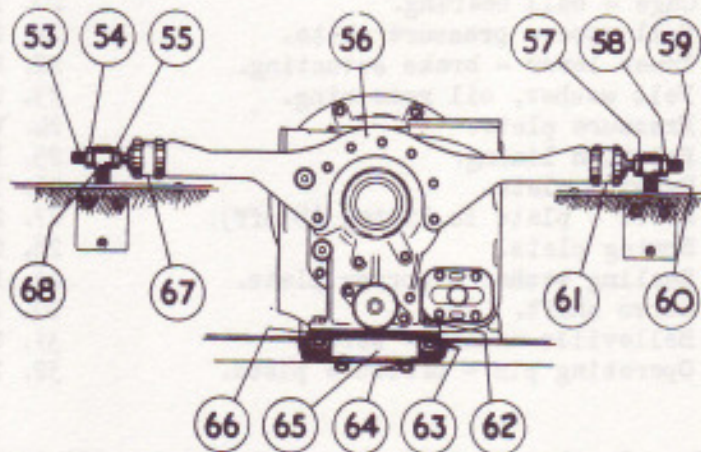

FIG. 23. ENGINE AND GEARBOX REAR MOUNTING.
- (a) Without disturbing the position of the outer nut (54, Fig.23), so as not to upset the original lateral adjustment of the left-hand side adjusting screw (53), slacken back the inner nut (55) as far as it will go, at same time, holding the outer cup (i.e. the one attached to the adjusting screw) by hand to prevent it turning, move the screw outwards and then withdraw the torque re-action rubber (67).
- The nuts (57 and 58) as fitted to the adjusting screw (59) on the right-hand side, should not be disturbed.
- (b) Remove two nuts and flat spring washers (63), and then remove the bolts (62), as fitted to the bottom and outermost holes in the gearbox rear end cover and support.
- (c) With the gear change lever in the neutral position, push or carefully lever the rear end of gearbox about half an inch towards the left-hand side of the chassis. This may dislodge the right-hand torque rubber (61) from its retaining cups.
- (d) Remove servo and Ferodo sealing washer (13).
- (i) Make sure that the gear change lever is in the neutral position. While holding the right-hand torque rubber (61, Fig.23) in position between its retaining cups, the rear of the gearbox should be pushed or carefully levered back to its normal position in the chassis. As the placing in position of the right-hand torque rubber will have to be done by "feel", make sure that it has not been trapped on the edge of the cup holders; see Fig.23. With the torque rubber correctly positioned and with the packing pieces (66) in their correct position, refit the two bolts (62) and tighten up the nuts and flat spring washers (63). The function of these packing pieces, which may vary in number, is to ensure that the selector lever shaft (the horizontal shaft which enters the gearbox) shall be in line with the change gear lever shaft (to which it is coupled) and not sloping up or down.
- (ii) Place the left-hand torque rubber (67) in position in the inner cup, draw the outer cup (attached to the adjusting screw 53) on to the rubber and while holding the outer cup to prevent it turning, tighten up the inner nut (55) to lock. Providing the outer nut (54) has not been disturbed from its original position, the compression of the rubbers will not have been altered. However, should there be any doubt, then re-adjust as follows:-